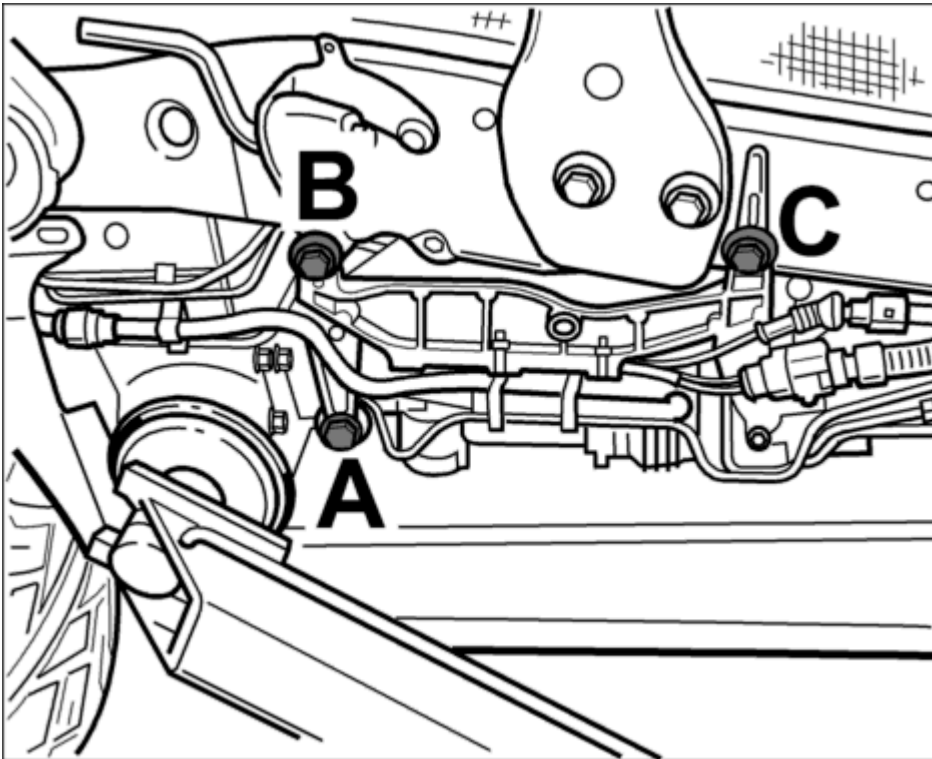

Fig. 55: Mounting points for compressor unit
3. Release the mounting points on the body -A, B & C- and remove the compressor unit (compressor, valve block). See **Fig. 55**.